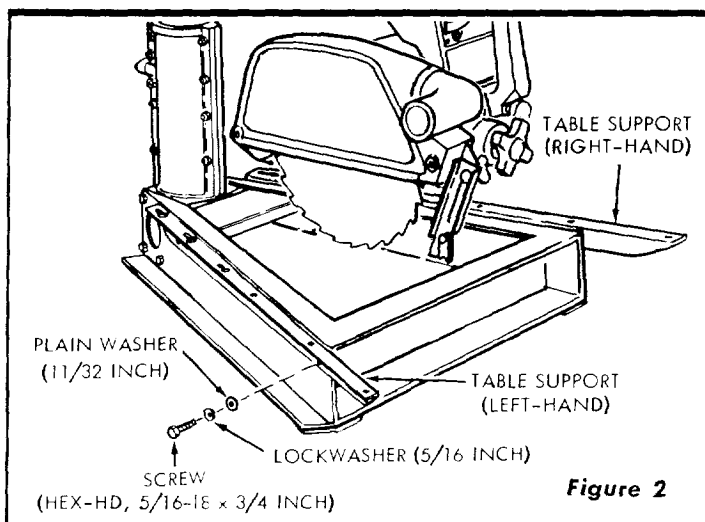

Figure 2
2. Attach right-, and left-hand table supports to the saw base as follows: (See figure 2.)
NOTE: Right-, and left-hand supports may be identified by the three "keyholes" in the table attaching surface of each support. These keyholes are for attaching the table clamps and are located at the rear of the saw. Also, the angle of each support turns outward, away from the saw base. (See figure 2.)
- k. Tighten the two hex-head screws (figure 2) securely to retain the adjustment. Recheck to make sure that tightening screws did not affect the accuracy of the adjustment.